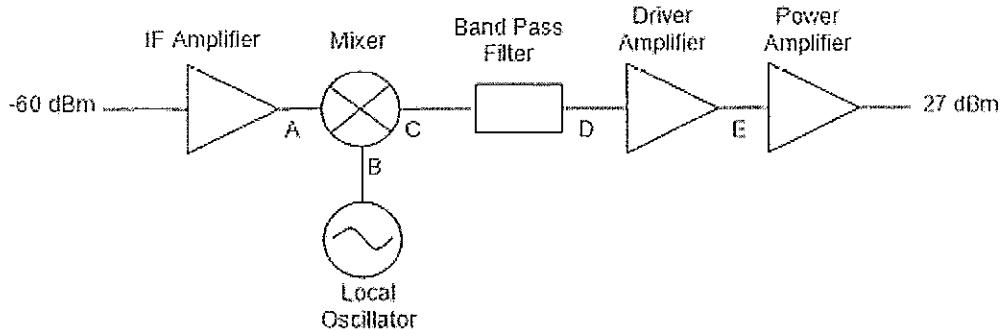

Figure 3: Block diagram of the 2.5 GHz wireless transmitter
3. Referring to a block diagram in Figure 3, design a 2.5 GHz wireless transmitter having the specifications as in Table 3. The information for the components that is required for the design is attached in the Appendix section.